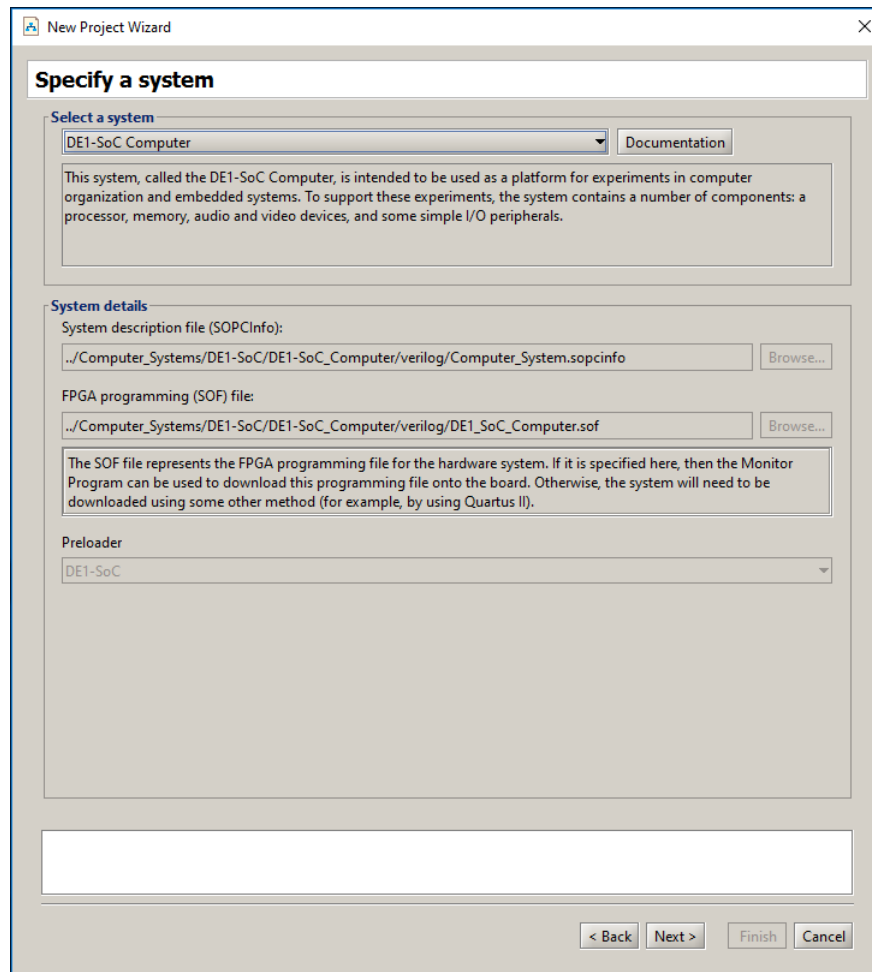

Figure 6. Specifying the desired hardware system.
2. Click **Next** to advance to the window shown in Figure 6, which is used to specify a particular system. A hardware system to be implemented on the FPGA board is usually generated by using Quartus's Platform Designer tool. Information about creating systems using Platform Designer can be found in the *Introduction to the Intel Platform Designer Tool* tutorial, which is available in the University Program section of Intel's website.
Lets go back to our DE1-SoC computer. In the top right corner of Figure 6 there is a Documentation button. Clicking on this button opens a user guide that provides all information needed for developing ARM programs for the DE1-SoC Computer, such as the memory map for addressing all of the I/O devices in the system. This file can also be accessed at a later time by using the command **Settings > System Settings** and then clicking on the **Documentation** button.